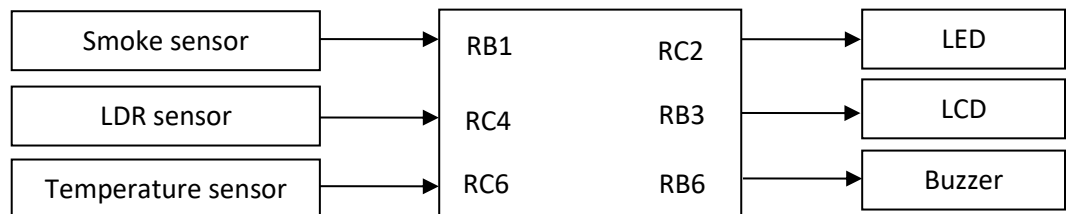

Figure A1(b)/ Rajah A1(b)
- (b) Figure A1 (b) shows the connection between input devices and output devices with PIC microcontroller. Write the C language to configure the input/output port using bit addressable and byte addressable.